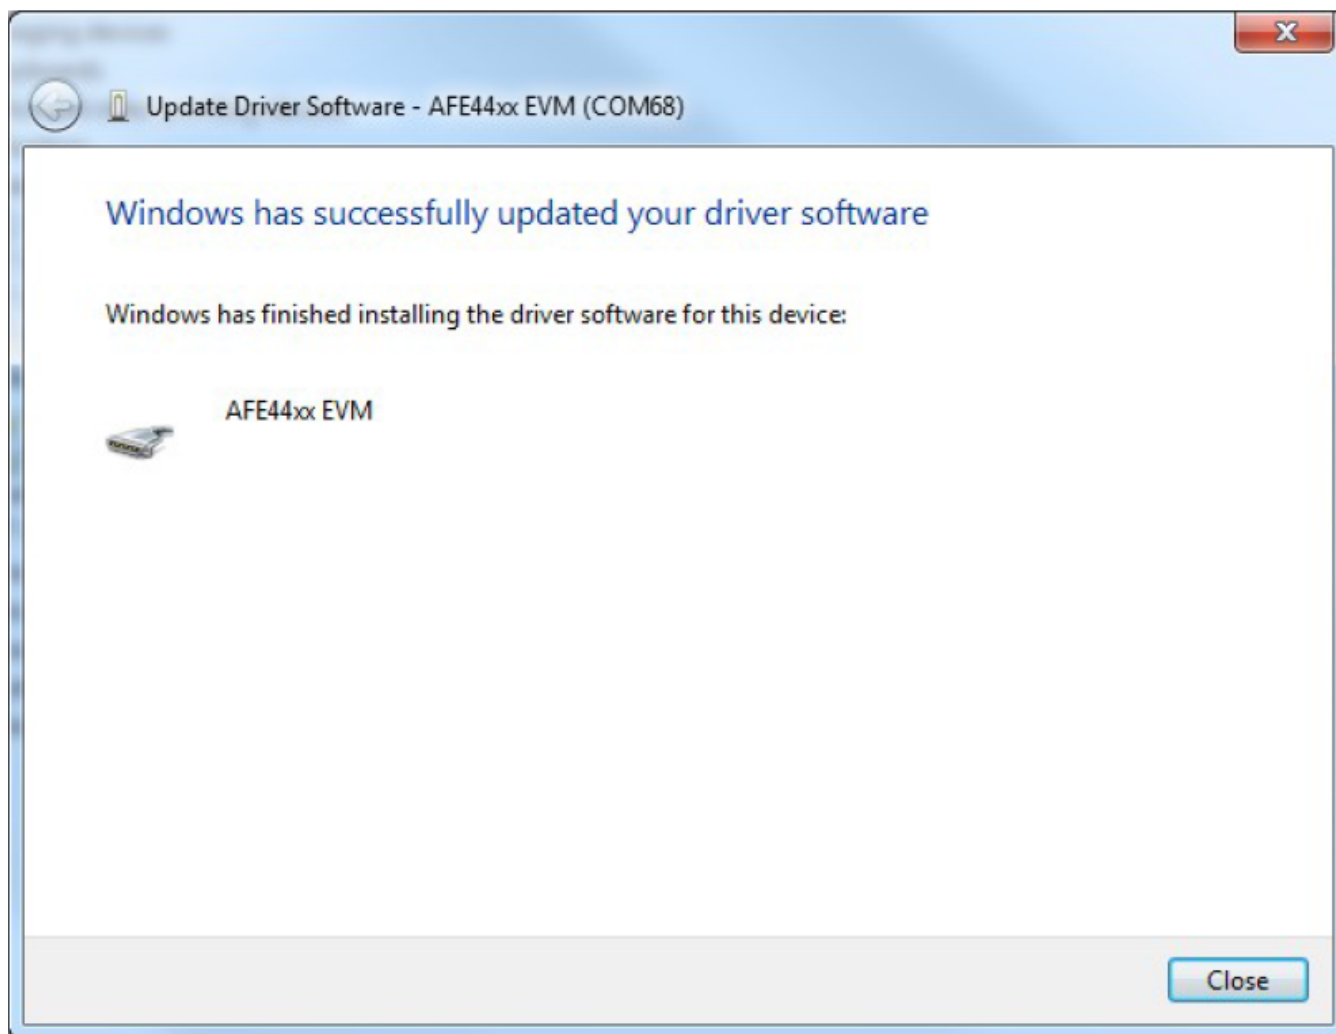

Figure 19. USB Driver Installation - Screen 4
6. Click the **Close** button once the driver installation is complete (Figure 19).